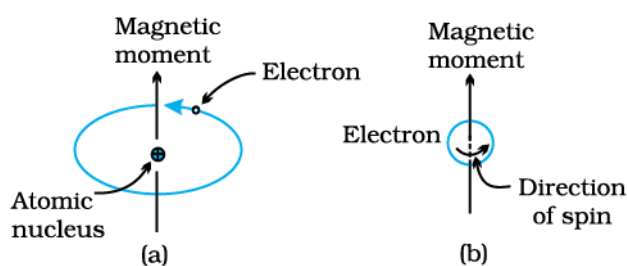

Fig.3: Demonstration of the magnetic moment associated with (a) an orbiting electron and (b) a spinning electron.
- (ii) its spin around its own axis (Fig.3).